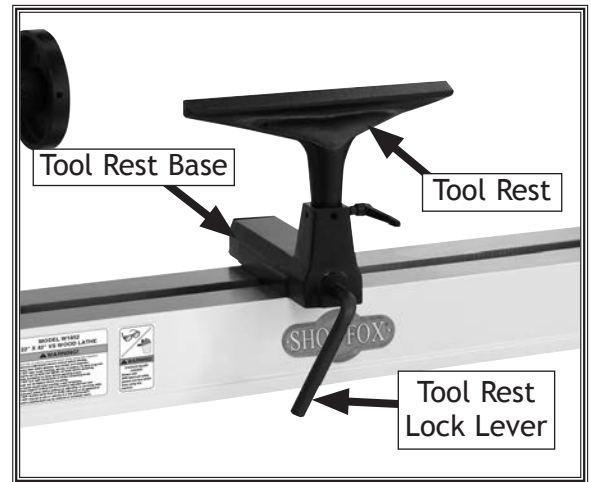

Figure 14. Tool rest installed on tool rest base.
9. Insert tool rest into tool rest base and tighten tool rest lock lever, as shown in **Figure 14**.